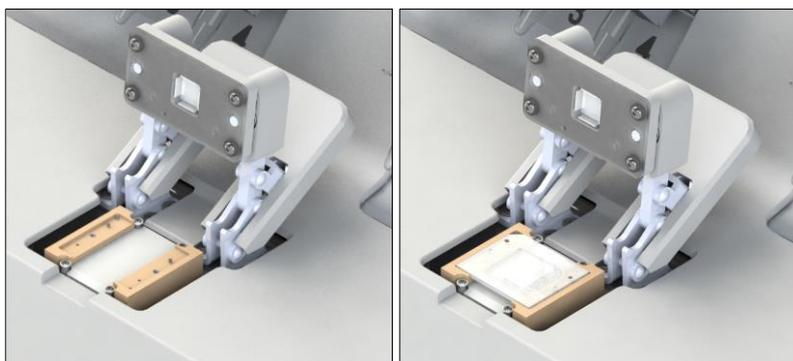

Figure 38) Stainer open without chip (left). Staining chip insertion in stainer (right).
When the protocol is ready to be executed and the start button is available in the Home tab, you can load a Staining chip (Figure 38). To do so, follow these steps:
5. Insert the new Staining chip. The cut corner of the chip must be placed in the top left corner of the Stainer, with the seal of the chip facing down (Figure 38, right).